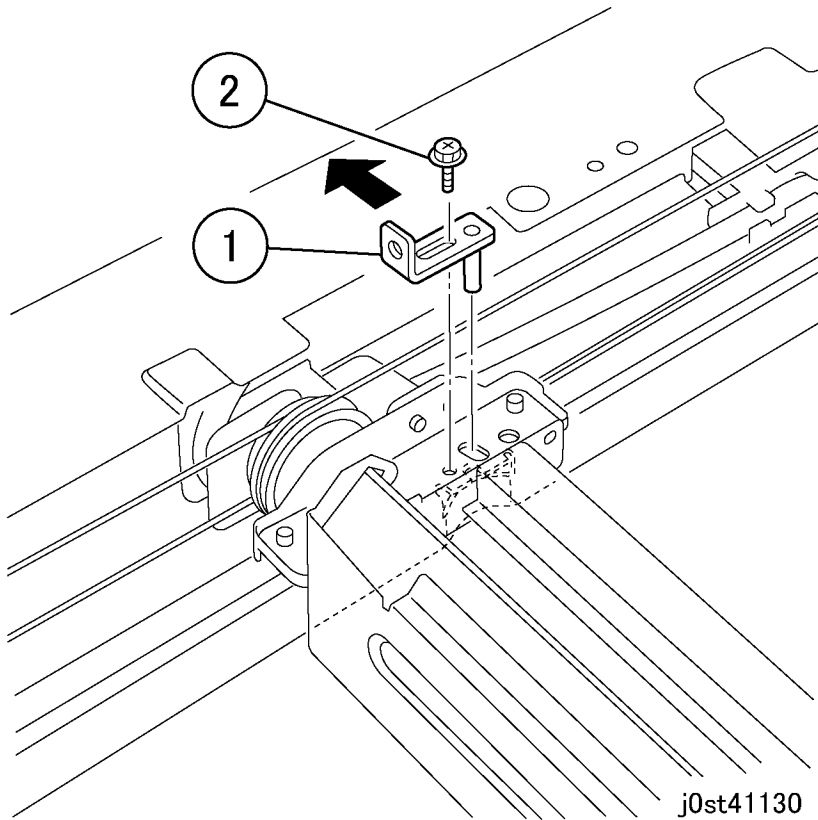

Figure 3 Installing Alignment Pins on Half Rate Carriage
8. Install the alignment pin to the Half Rate Carriage. (Figure 3)